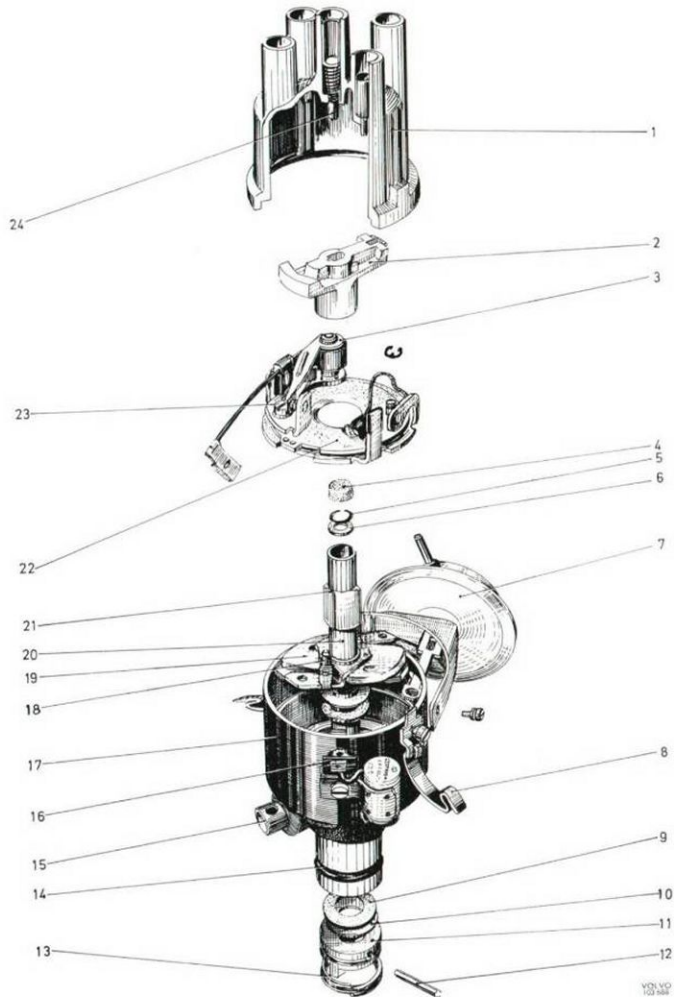
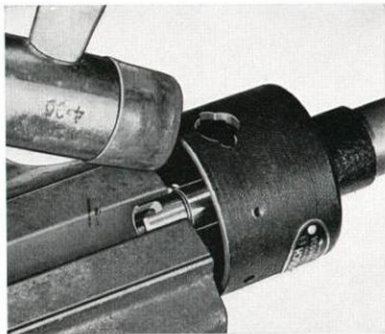
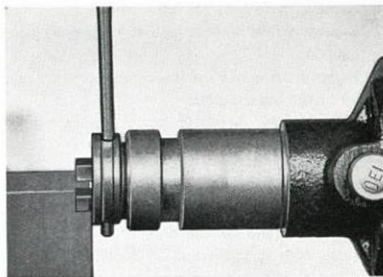

Fig. 3-99. Distributor, B 20 B
Fig. 3-103. Removing circlip
Fig. 3-104. Removing driving collar
3. Disconnect the springs for the centrifugal governor and mark up how the breaker cam is located in relation to the distributor shaft. Secure the breaker cam in a vice with soft jaws. Carefully knock on the distributor housing with a plastic mallet (Fig. 3-103) until the circlip (5, Fig. 3-99) has released and lift off the breaker cam.
- Remove the resilient ring (13, Fig. 3-99) and mark up how the driving collar (11, Fig. 3-99) is located in relation to the distributor shaft. Tap out the pin (Fig. 3-104), lift off the driving collar and pull up the distributor shaft. Check that no washers have been lost.